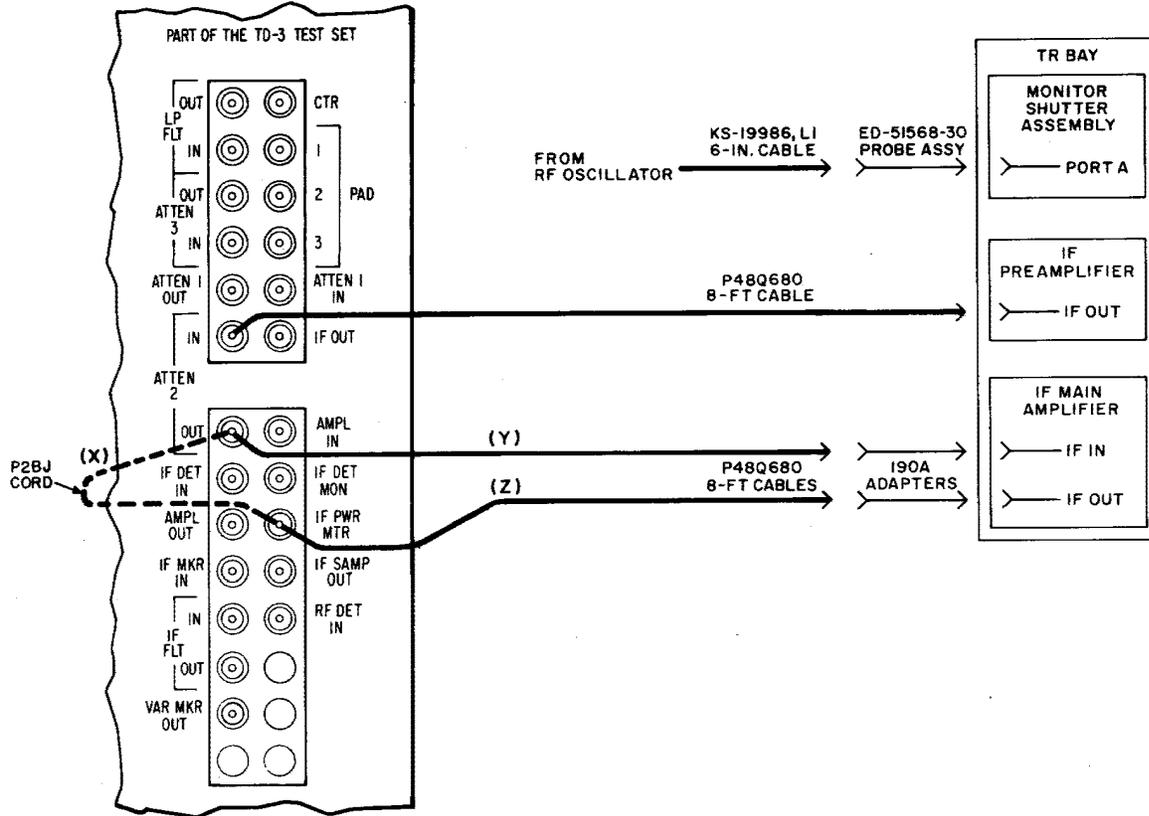

Fig. 10—Carrier Resupply and HS/SD Trip Test Setup
| 23   | Make the test connections as shown in Fig. 10, option (X).  |
| 28   | Change the test connections in Fig. 10 to options (Y) and (Z).  |
| 23   | Make the test connections as shown in Fig. 10, option (X).   |
| 28   | Change the test connections in Fig. 10 to options (Y) and (Z).   |
| 5    | Make the test connections shown in Fig. 10, option (X).  |
| 8    | Make the test connections in Fig. 10, option (Y).  |